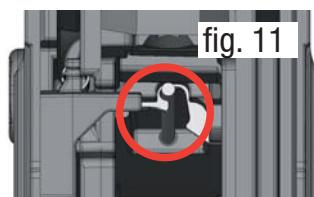

fig. 11
- Set the magazine release on the left or right side of the frame as required. **MAKE SURE THAT THE SPRING ENGAGES WITH THE MAGAZINE RELEASE (FIG. 11).**